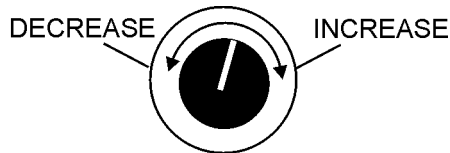

Figure 40. Voltage Adjust Control Knob
5. Use the voltage adjustment control knob (Figure 40) to increase or decrease the desired voltage.